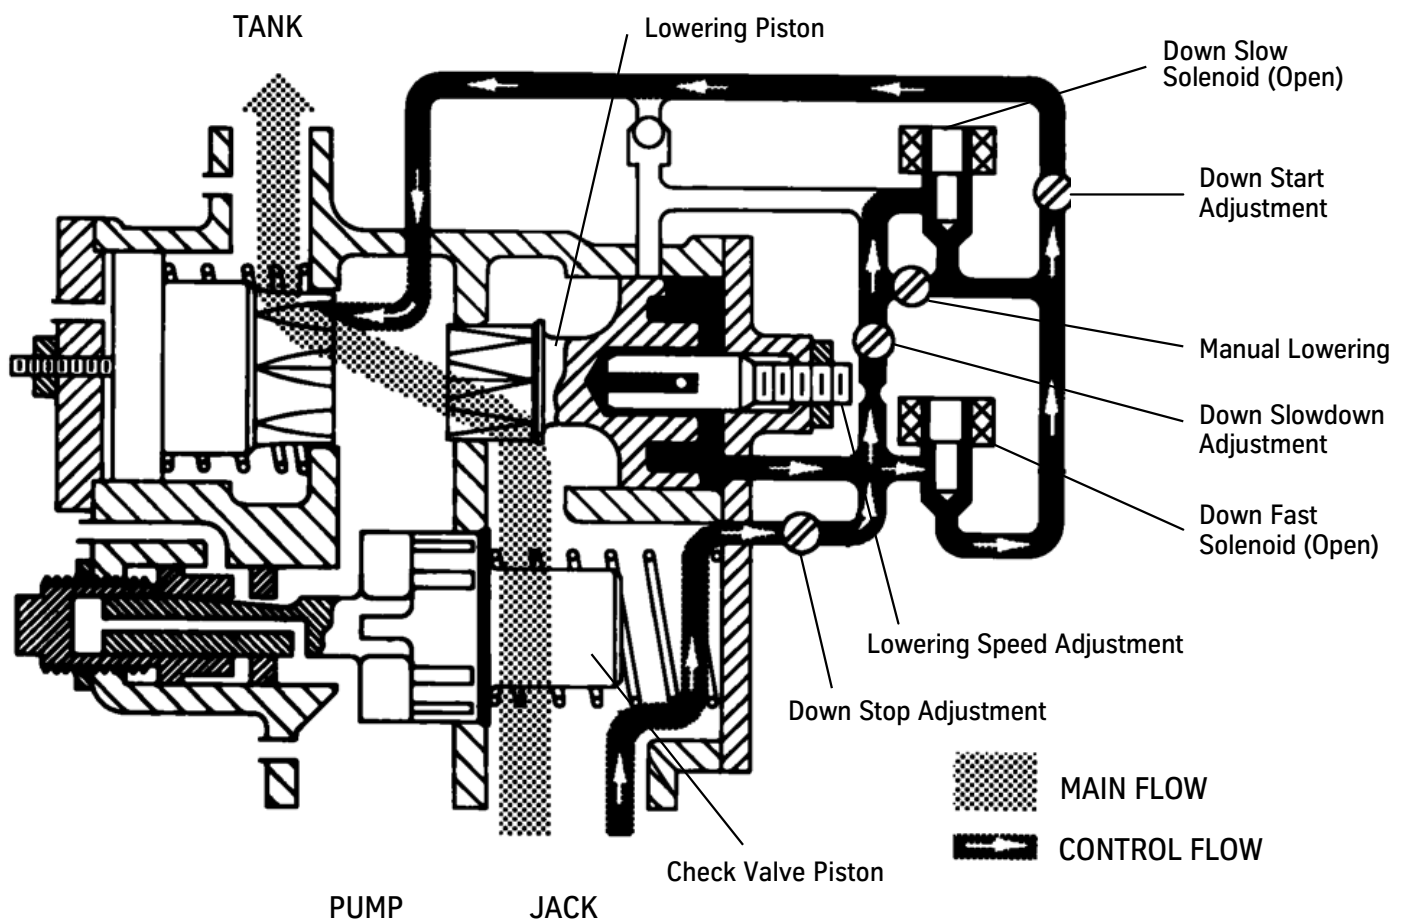

Figure 11 - Down Start and Full Speed Diagram
1. To start the car down, the down fast and down slow solenoids are energized simultaneously, allowing the oil behind the piston to flow to the tank through the down start adjustment. See Figure 11.